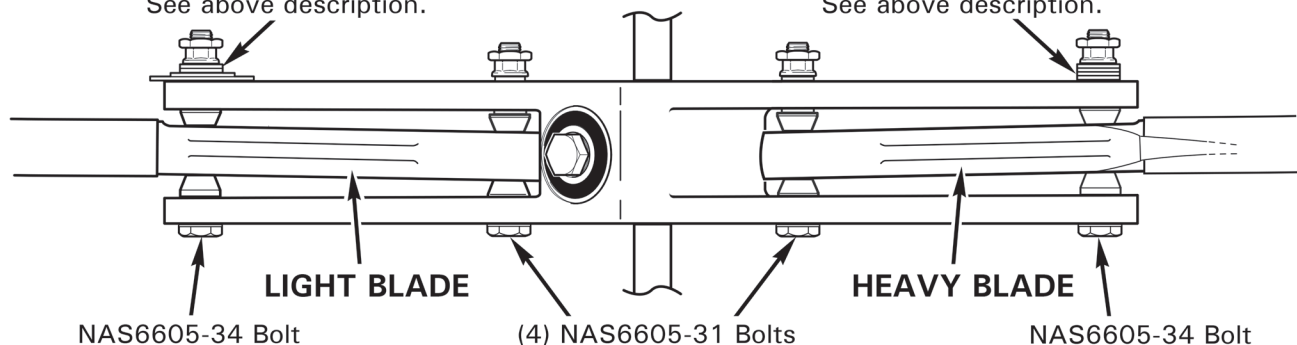

FIGURE 30-4 SPANWISE STATIC BALANCE
6. Refer to Figure 30-4. Place tail rotor assembly, with balance bar, horizontally on balancing stand. Hold tail rotor horizontally, then release to allow rotation. The falling blade is the heavy blade; the rising blade is the light blade.